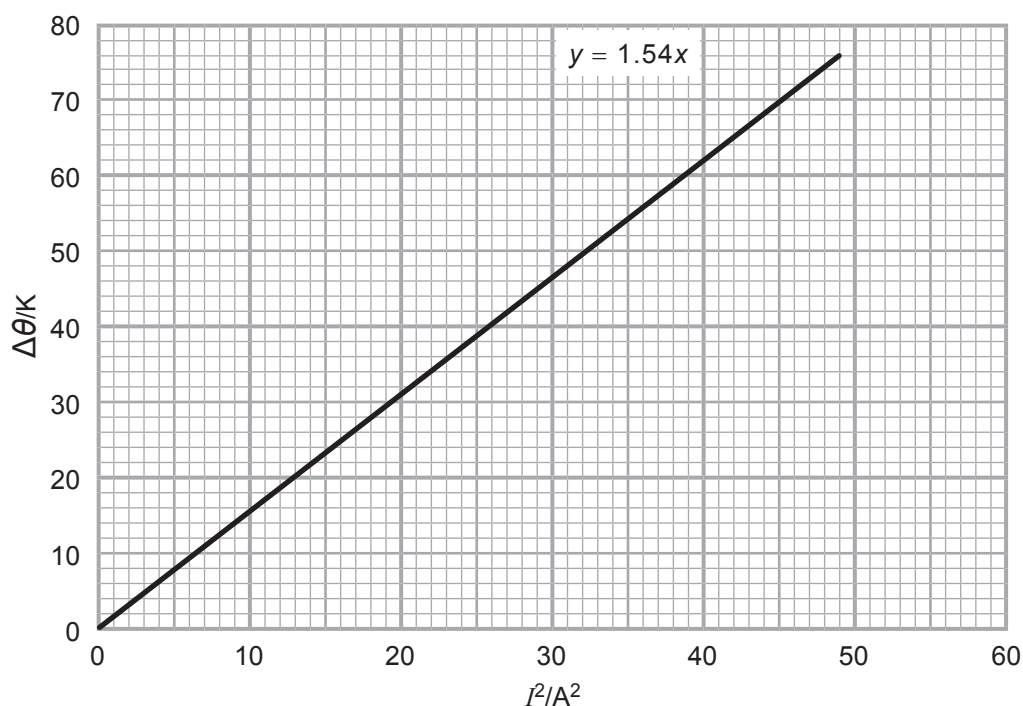

Fig. 3.1
Fig. 3.1 is a graph of the experimental results for the temperature change, $\Delta\theta$, in a sample of water against the square of the current, I^2 , through a constantan heating coil of wire immersed in the water. The software package used to draw the graph has included the equation for the trend line.
- (a) (i) Does the graph in **Fig. 3.1** verify the Joule Law of Heating? Explain your answer.
- (b) In the space below, draw a fully labelled diagram of an experimental arrangement that would facilitate the taking of results that would allow a graph similar to that shown in **Fig. 3.1** to be drawn. Remember to include any measuring instruments required.